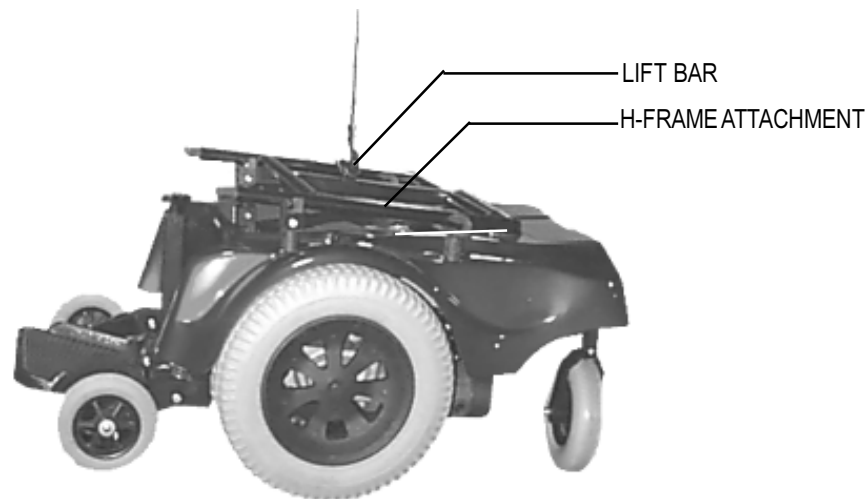

FIGURE 23.
2. Install the H-frame attachment. See figure 23.